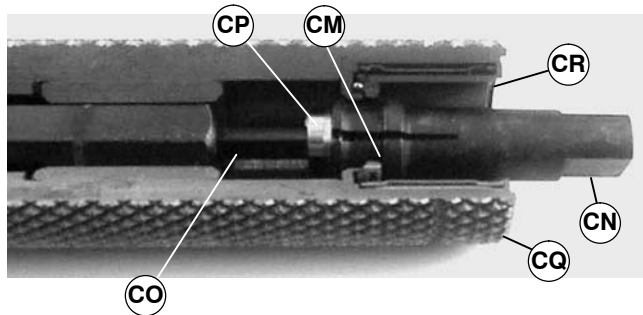

Figure 48
1. Insert bearing removal tool (part # 25-05*) (CN of Figure 48) into the pulley (CQ) until shoulder (CM) seats against bottom of bearing (CR).